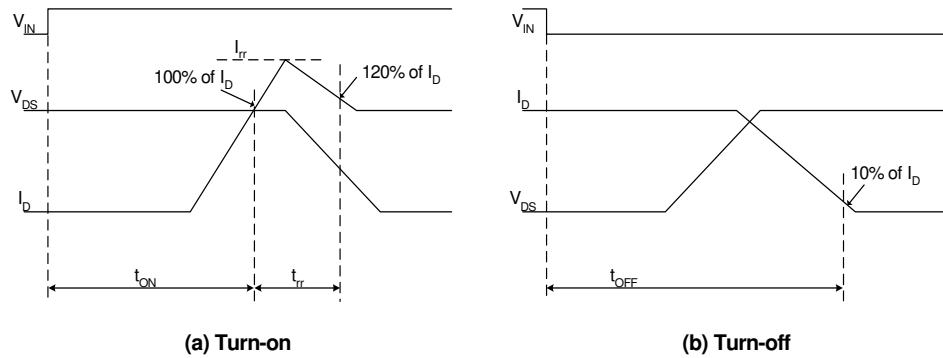
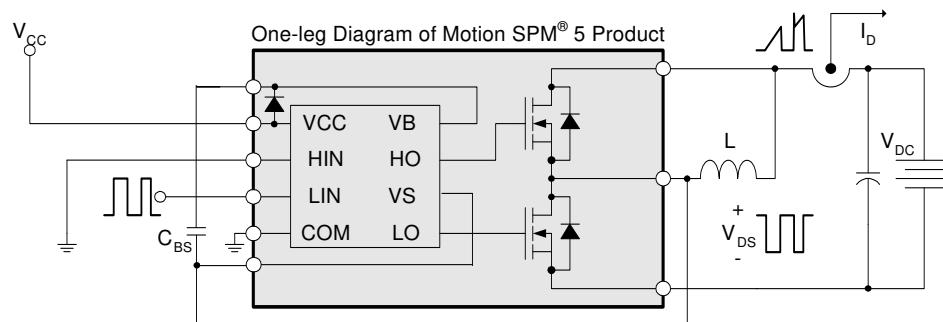

Figure 5. Switching Time Definitions
Figure 6. Switching and RBSOA (Single-pulse) Test Circuit (Low-side)
- $t_{ON}$  and  $t_{OFF}$  include the propagation delay of the internal drive IC. Listed values are measured at the laboratory test condition, and they can be different according to the field applications due to the effect of different printed circuit boards and wirings. Please see Figure 5 for the switching time definition with the switching test circuit of Figure 6.
- The peak current and voltage of each MOSFET during the switching operation should be included in the Safe Operating Area (SOA). Please see Figure 6 for the RBSOA test circuit that is same as the switching test circuit.